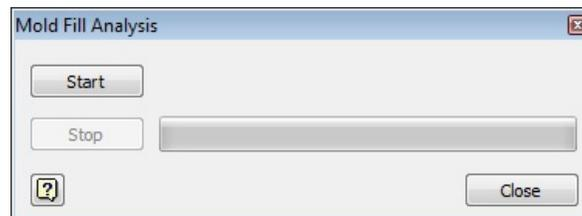

Figure 19-97 The Mold Fill Analysis dialog box
1. Choose the **Mold Fill Analysis** tool from the **Mold Simulation** panel in the **Mold Layout** tab of the **Ribbon**; the **Mold Fill Analysis** dialog box is displayed, as shown Figure 19-97.
Create the mold system for the component shown in Figure 19-97. The part file for this component has been created in Tutorial 3 of Chapter 6. **(Expected time: 1hr)**